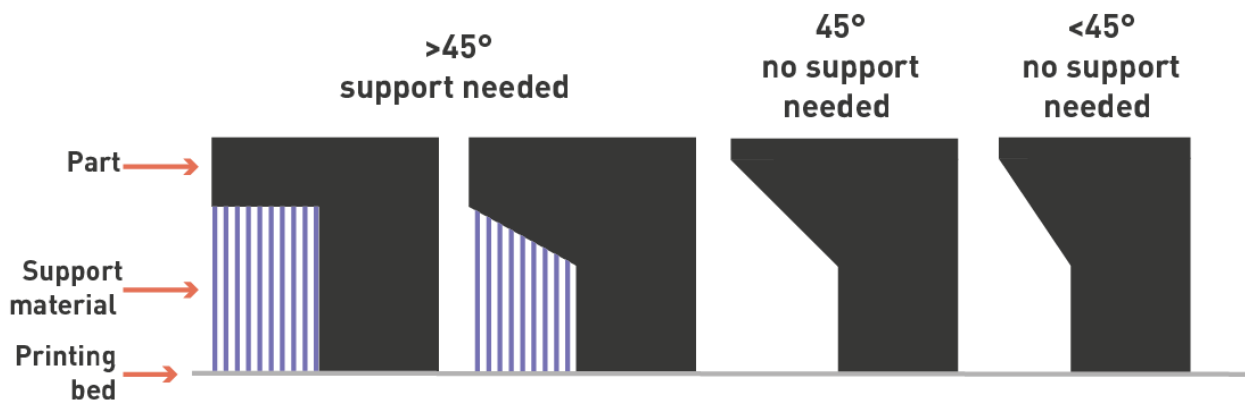

Figure 28 - Support material recommendations.
**F. Support material.** Depending on the geometry of your redesign part, you may have to select to have support material in some sections, as shown in Figure 28. If you have overhangs over  $45^\circ$  you will need support material, you can design your overhangs to use as little support material as possible. You can consider using soluble materials for the support (like PVA). This will only be possible if you have a printer that has two nozzles, and it also has its disadvantages, such as water absorption by the printed part.